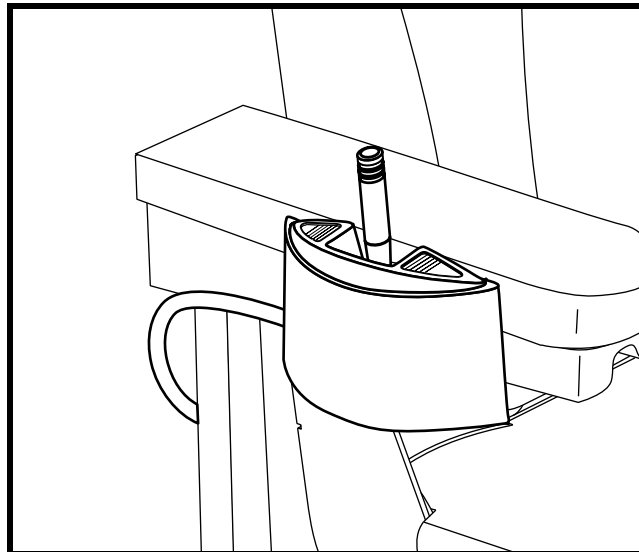

Figure 26. Power Seat Toggle Switch (Shown on Armrest)
1. Press forward on the toggle switch to raise the seat. See figure 26.